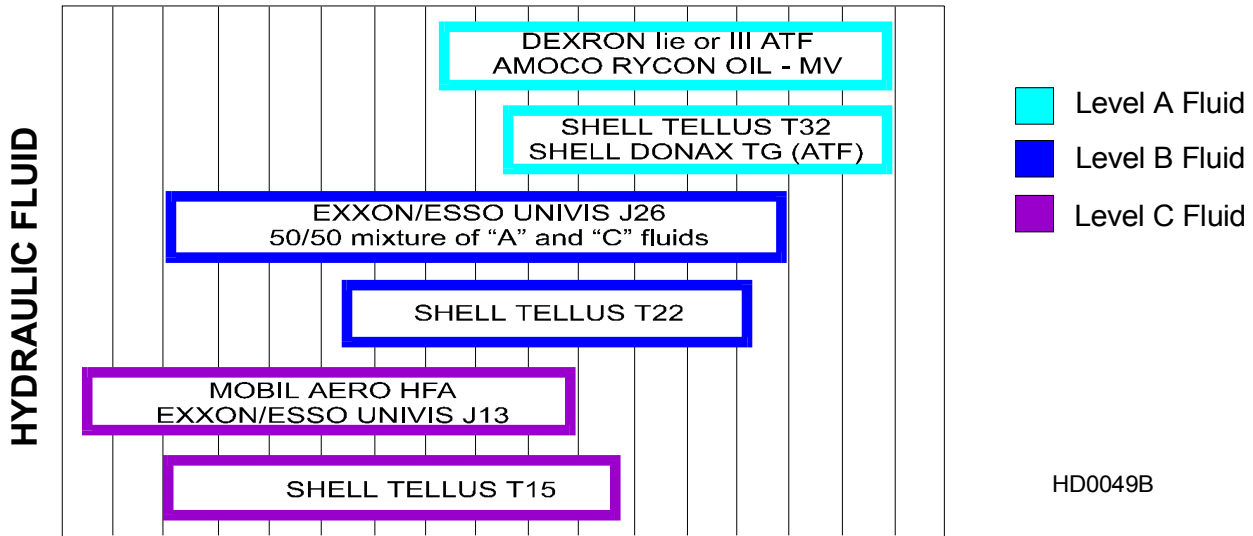

FIG. 5-5
**See Figure 5-5.** If you are operating in temperatures -20° to 100° F (-29° to 38° C), use an all-weather hydraulic fluid such as Exxon Unavis J26. For alternate fluids and/or other temperature ranges, refer to the chart below. Operating above the recommended temperature range of a fluid could result in excessive pump wear. Operating below the recommended temperature range could result in reduced hydraulic cylinder speed.